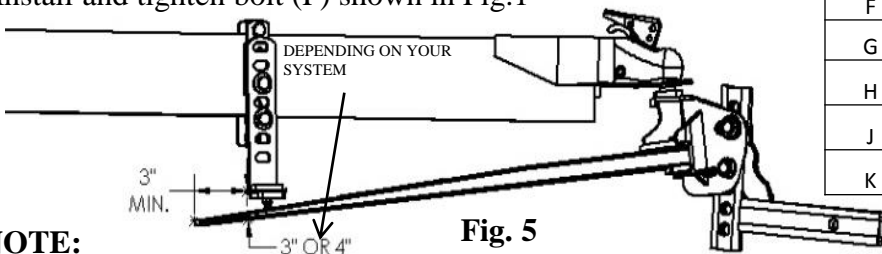

Fig. 5
- During ball mount adjustment, it may be necessary to raise or lower the L-bracket (L) to get the proper spring bar load if there is not enough head angle adjustment. If there are not enough washers to get the dimension shown in fig. 5, move the L-bracket (L) up 1 set of holes.